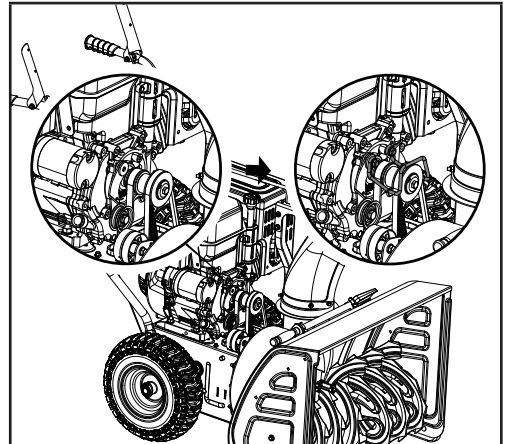

Figure 29
10. Place the belt guard back into place and install the (20 mm/30 mm) bolts that were removed earlier. Once reinstalled, make sure there is equal distance on both sides between the pulley and the guard (Fig. 29).